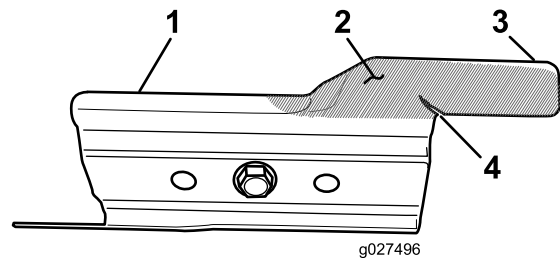

Figure 31
Carefully examine the accelerator for excessive wear (Figure 31). Because sand and abrasive material can wear away the metal (especially in the area shown as item 2 in Figure 31), check the accelerator before using the machine. If you notice that a tab on the accelerator has been worn down to a sharp edge or there is a crack, replace the accelerator.